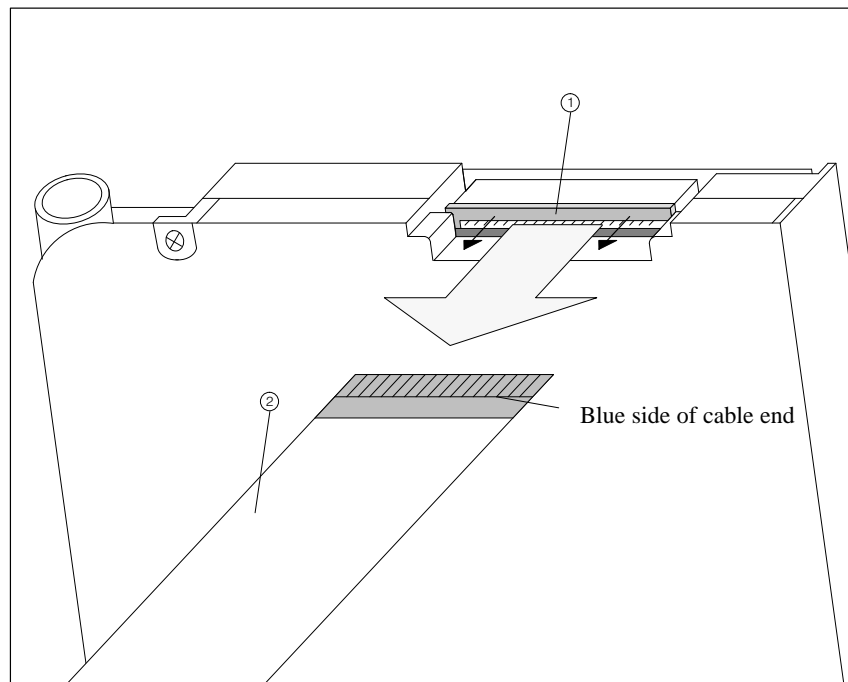

Figure 6-11 Releasing the connector cover and disconnecting the cable
1. Slide the connector cover ① in the direction of the arrow as shown in Figure 6-11. Disconnect ribbon cable ②. When connecting the cable to the terminal on the new floppy disk drive, make sure that the side of the cable with the end colored blue is facing upwards and the cable contacts are facing downwards.